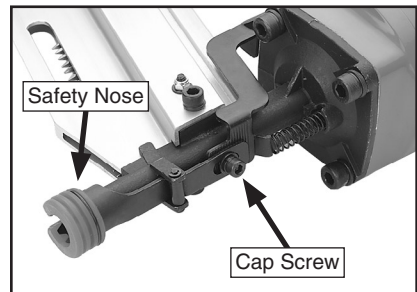

Figure 8. Loosening cap screw for depth adjustment.
2. Use a 4mm hex wrench to loosen the cap screw shown in **Figure 8**.